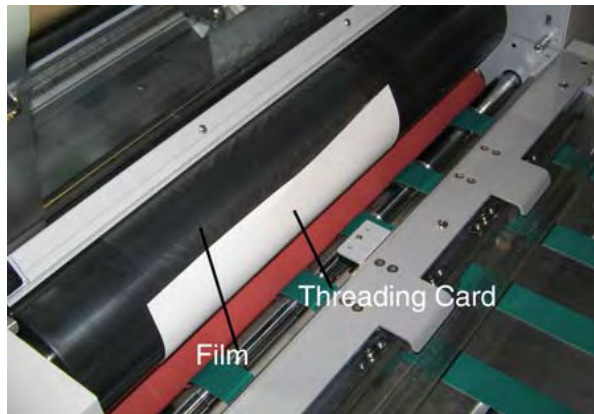

Figure 5
- Attach the end of the Threading Card to the activated film. The **Top Main Roller** must be hot to activate the adhesive to ensure that the Threading Card sticks. (Figure 5).